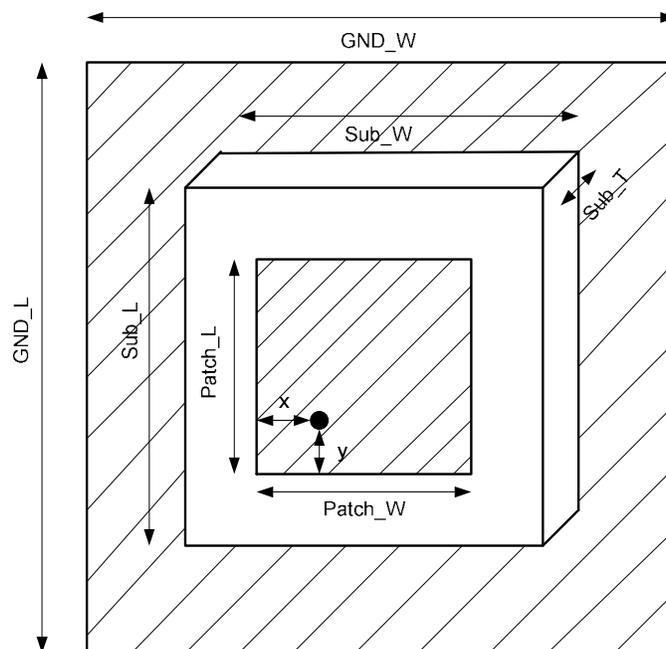

Figure 1.
1. We will design a Patch antenna with a Pin feed excitation (as opposed to Microstrip feed that is accomplished using a microstrip line with an Edge feed). Figure 1 shows the geometry of the antenna.
The variables of interest as shown on Figure 1 are: